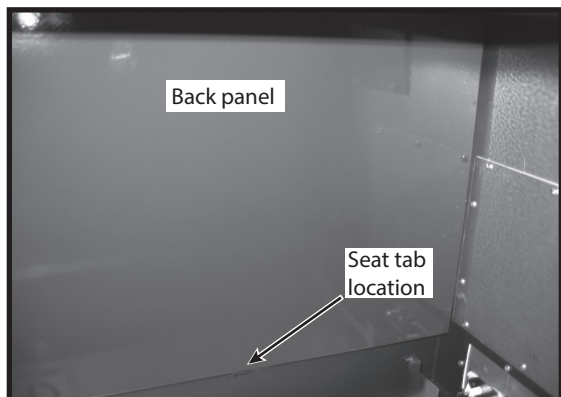

Figure 44: Right seat tab.
1. Insert the back panel (Figure 44) into the firebox by tilting the panel and rest the panel on the seat tabs at the back of the firebox.